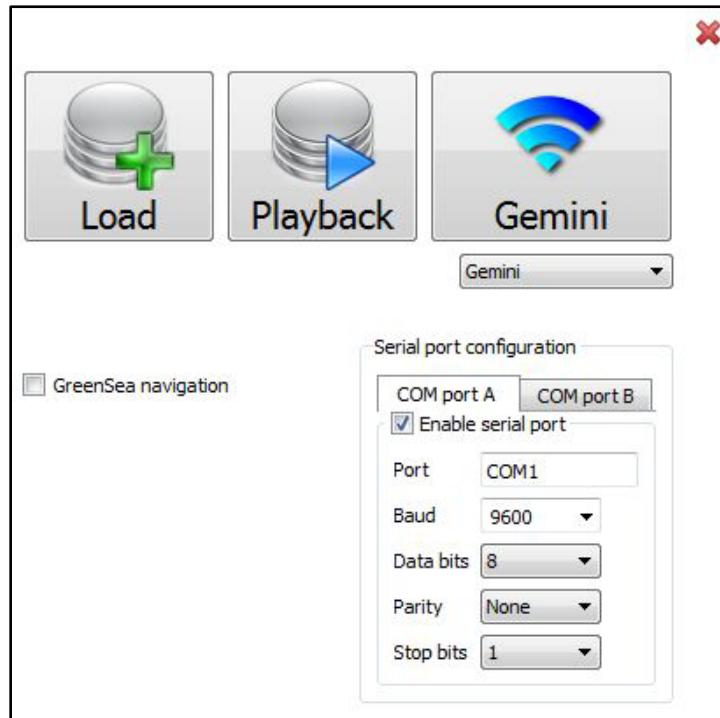

Figure 28. Navigation Interfacing
3. Click the checkbox next to **Enable serial port** on the COM port A tab or click the checkbox next to **GreenSea navigation** (Figure 28). Enabling GreenSea navigation disables the serial ports. If you are using an integrated position/heading system, you need only configure Com port A.